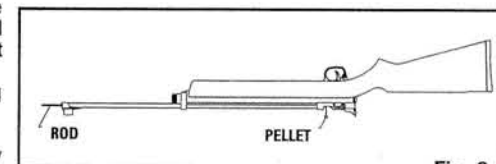

Fig. 8
- Push the jammed pellet into the pellet loading port (forward of the bolt). (Fig. 8)